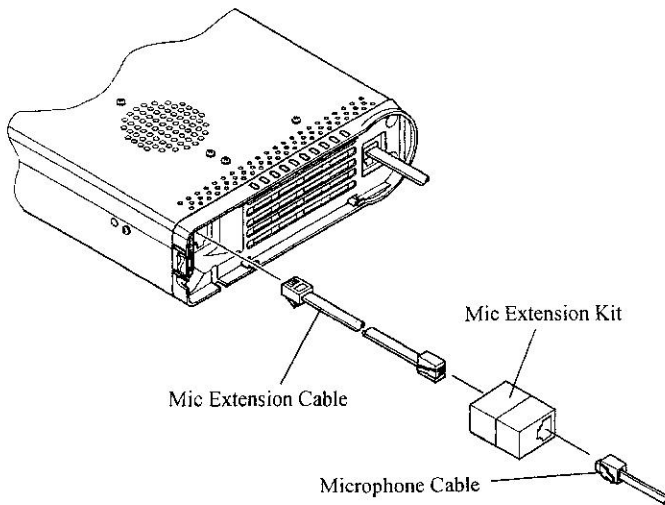

Figure 3
5. Referring to Figure 3, insert the plug of the Mic Extension Cable into the **MIC** jack on the **FT-857**, then inset the Mic Extension Cable and microphone cable into the jack of the Mic Extension Kit.